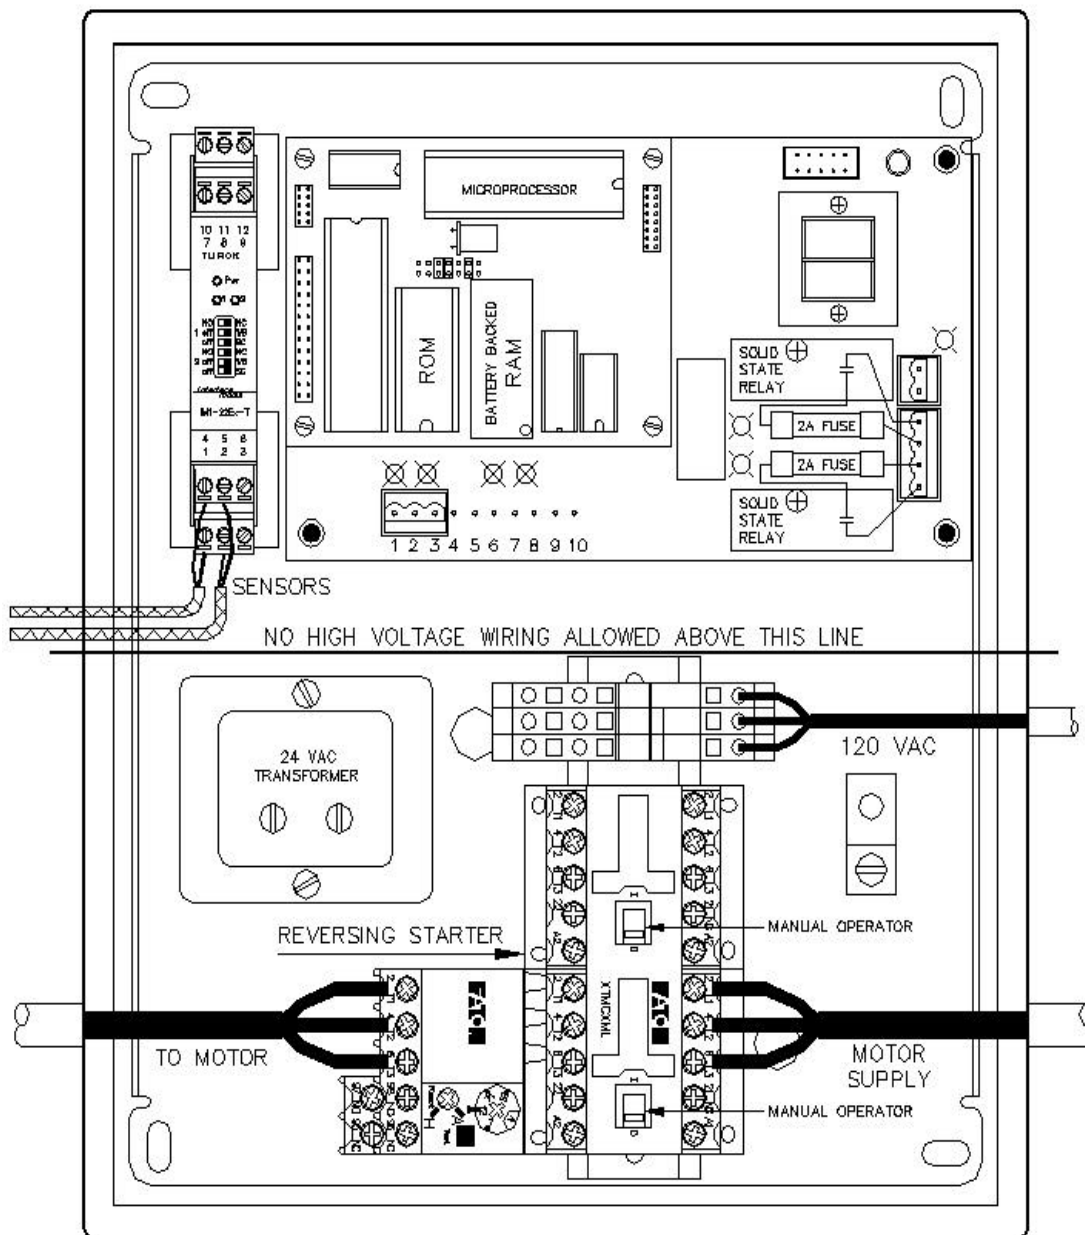

Figure 1. Control component identification.
Figure 1 shows the interior of the EDI control. Note the arrangement of the field attached wiring, particularly how it is routed into and out of the control enclosure. **Any high voltage wiring that is looped or routed differently than as shown can cause interference with the electronic components and cause the EDI operation to intermittently fail.**
Observe Figure 1 and note the location of the wiring. It is very important to keep the high voltage wires away from the electronic components.
The sensors are part of an intrinsically safe circuit. There are (2) two wire sensors, thus 4 wires required for each drive. Use 26 ga. or heavier, stranded or solid, shielded or unshielded wire up to 1000' in length (thermostat wire is fine). **Do not run sensor wires with power wiring.** Route the sensor wiring as shown in Figure 1.